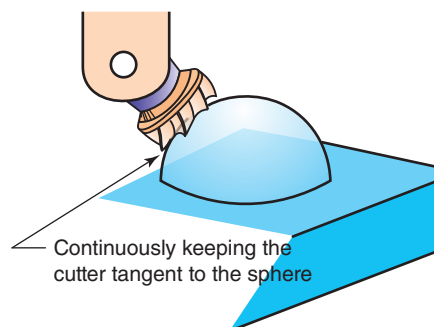

Figure 17-72 Milling the dome shape using X-Y circular interpolation while keeping the cutter tangent to the surface.
5. A *five-axis* CNC mill could produce the hemisphere by continuously keeping the cutter tangent to the surface at all times (Fig. 17-72).